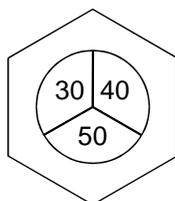

Figure 6.10 The moisture indicator of the PR-01-S-EX/FM sensor.
- *The intrinsically safe sensor PR-01-S-EX/FM (or earlier versions of PR-01-S) is equipped with a moisture indicator (Figure 6.10). The sectors in the moisture indicator should be light blue. If sector 30% is pink, change the drying agent. If sector 40% or 50% is pink, check also the instrument. (It may indicate prism seal leakage).*
Note: Never remove or try to regenerate the moisture indicator (Figure 6.10).